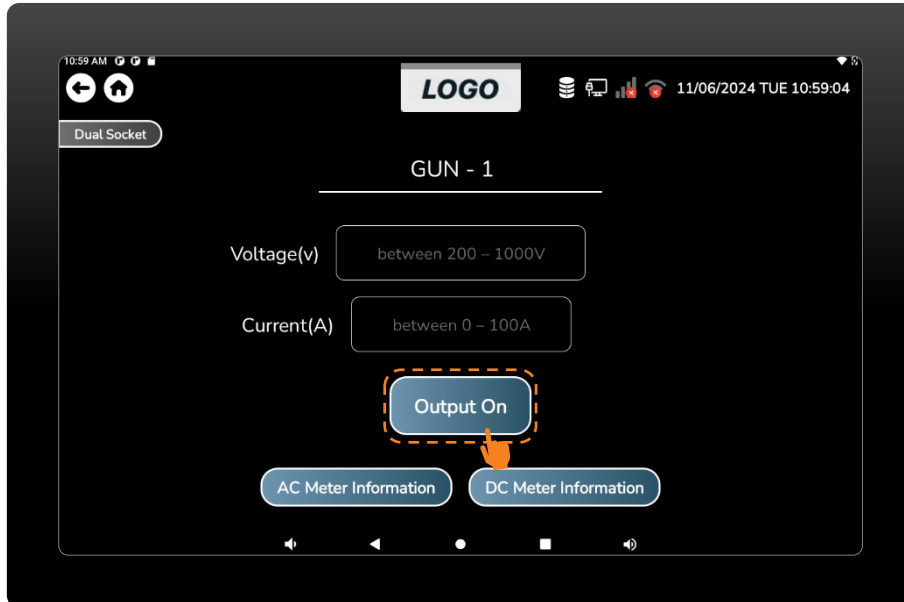

Figure 29 Press the Output ON to Test GUN-2.
- This is the GUN-2 screen, where the user can test set the voltage and current within the prescribed range and then press the output on button, that will provide the charging output accordingly. (Figure 29)